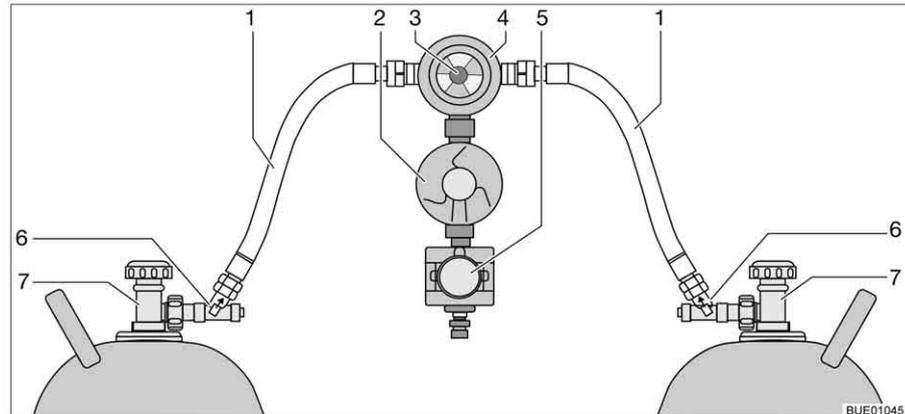

Fig. 112 Crash protection unit switching facility
The crash protection unit consists of two flow restrictors with manual release button (Fig. 112,6) a reversing valve (Fig. 112,4) with pressure regulator (Fig. 112,2), an electrovalve (Fig. 112,5) and the operating unit with tricoloured LED. The reversing valve is installed between the two gas tubes (Fig. 112,1).
Use the knob (Fig. 112,3) on the reversing valve to select which of the gas bottles is to be used as a primary bottle and which is to be used as a reserve bottle.
Only the electrical functions can be switched at the operating unit (Fig. 113). The regulator taps on the gas bottles (Fig. 112,7) and the release buttons (Fig. 112,6) must be opened manually.
- Open the regulator taps of the gas bottles (Fig. 112,7).
- Press the release buttons (Fig. 112,6) successively for 10 seconds.
- Use the knob (Fig. 112,3) on the reversing valve (Fig. 112,4) to select the gas bottle which is to be the primary source of gas (primary bottle). Always turn the knob as far as it will go.
- Close the regulator taps of the gas bottles (Fig. 112,7).